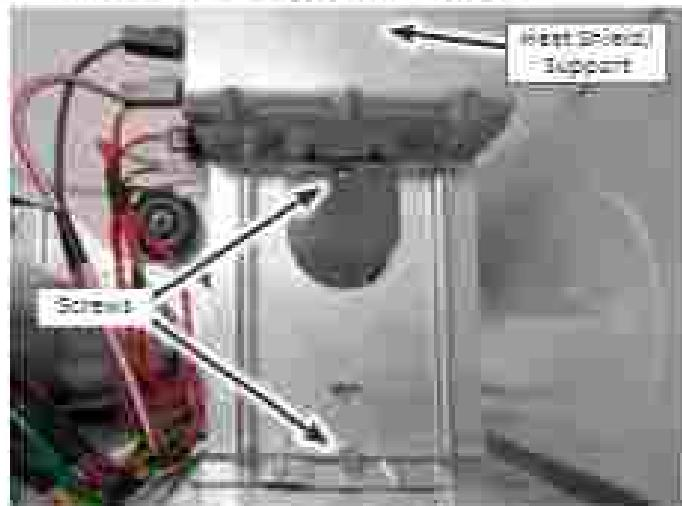

Figure 2 - Heater Shield/Support
- Remove the screw from the heater shield support and remove heat shield/support (see Figure 2).